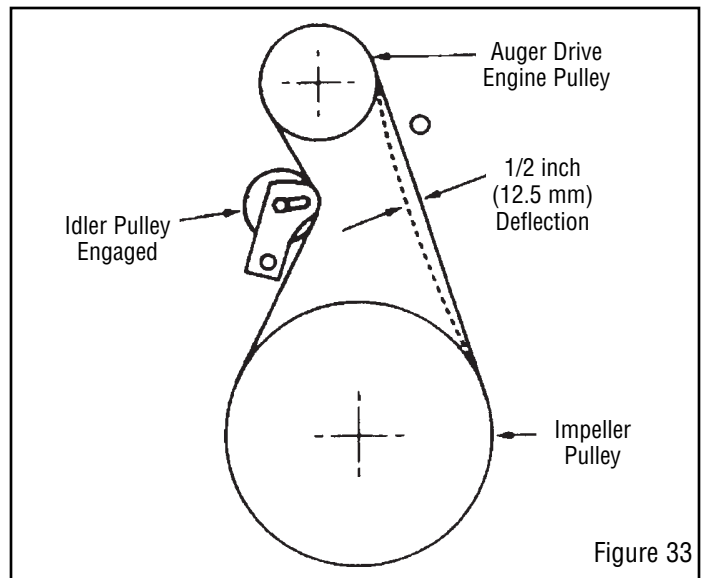

Figure 33
5. Have someone engage auger drive clutch. Check tension on belt (opposite idler pulley). Belt should deflect about 1/2 inch (12.5 mm) with moderate pressure (Figure 33). You may have to move idler pulley more than once to obtain the correct tension.